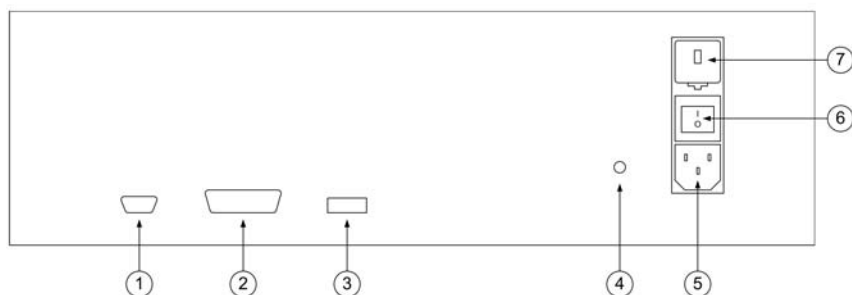

Figure 5 - Rear Panel
Figure 5 describes the rear panel layout.
- a) **Before** attaching the power cord to the rear connector, check that the line voltage selector is set appropriately for your location. The CL3001 is shipped from the factory with the line voltage set for the country of purchase. To verify the line voltage setting, check the indicator on the power line voltage selector and fuse compartment cover; see figure 5 in section 2.5 for the location.
- b) Once the voltage selection has been made, making sure that the power switch is off, connect the AC power cord to the CL3001; see figure 5 in section 2.5 for the location.